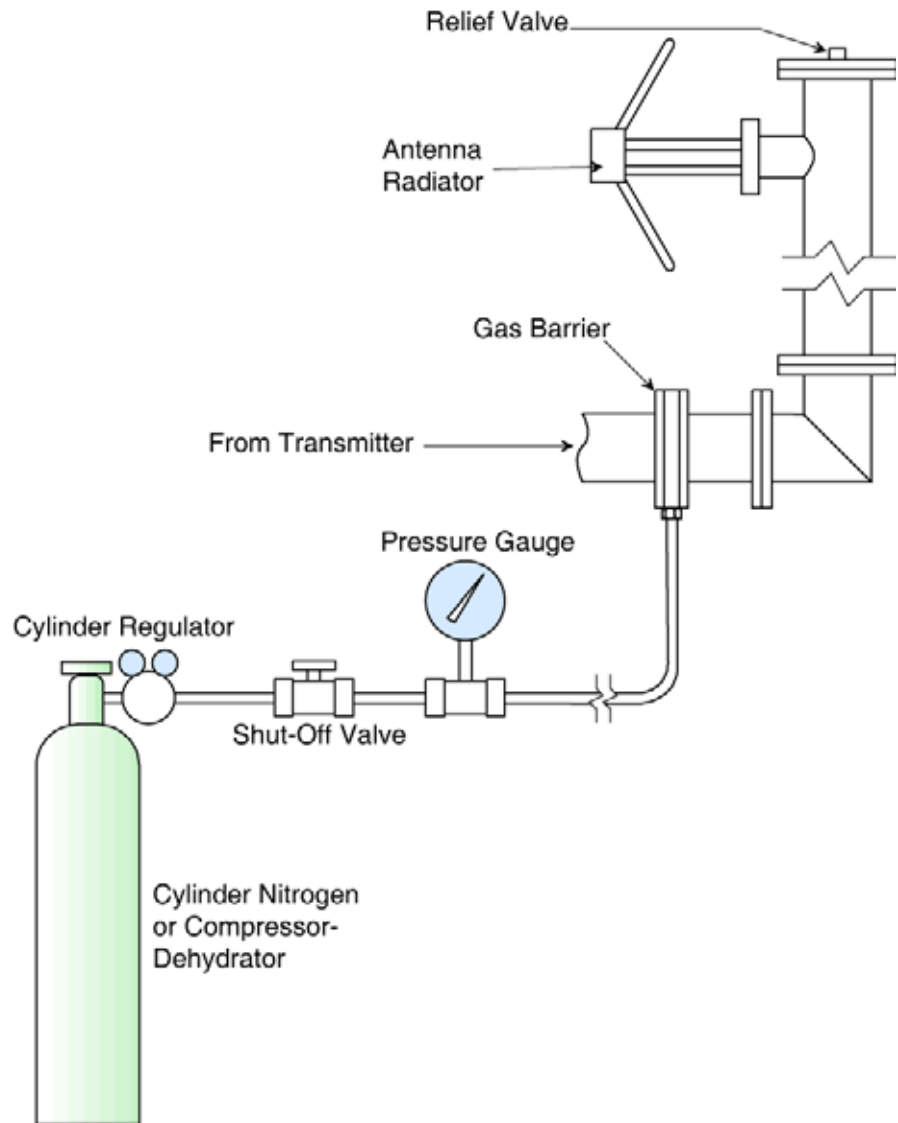

Figure 8. Pressurized Gas Schematic
- Connect a source of dry gas (cylinder nitrogen or air from a compressor-dehydrator) to the system as shown in Figure 8 on page 13.
- Pressurize the system to eight (8) psig, then close the shutoff valve. Give the system one half hour to stabilize, then record the pressure and the temperature.
- g. Connect a source of dry gas (cylinder nitrogen or air from a compressor-dehydrator) to the system as shown in Figure 8.